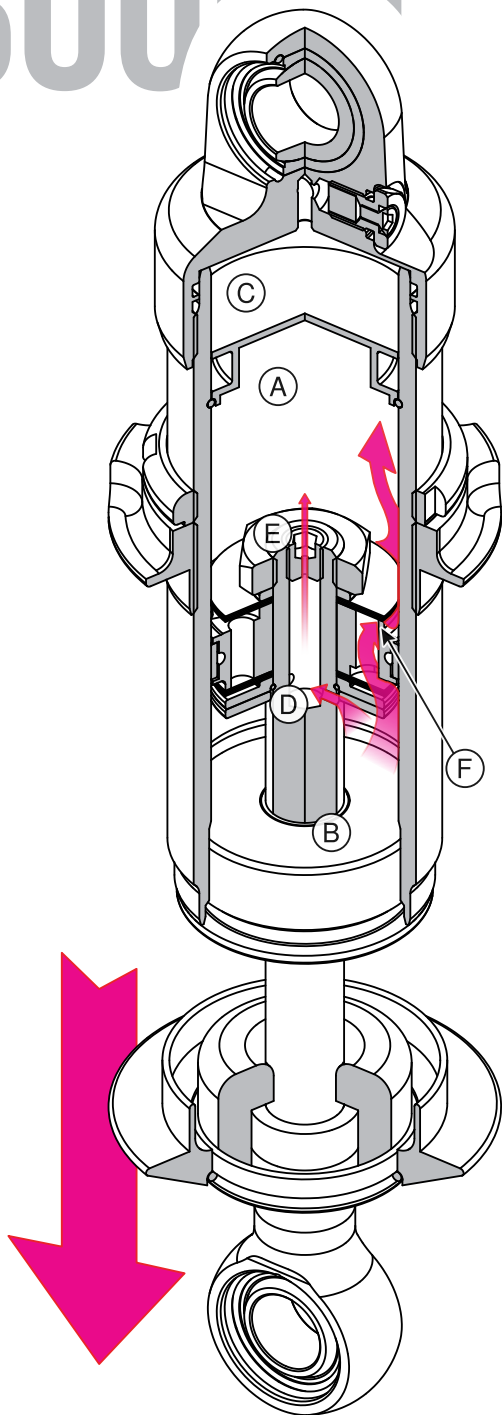
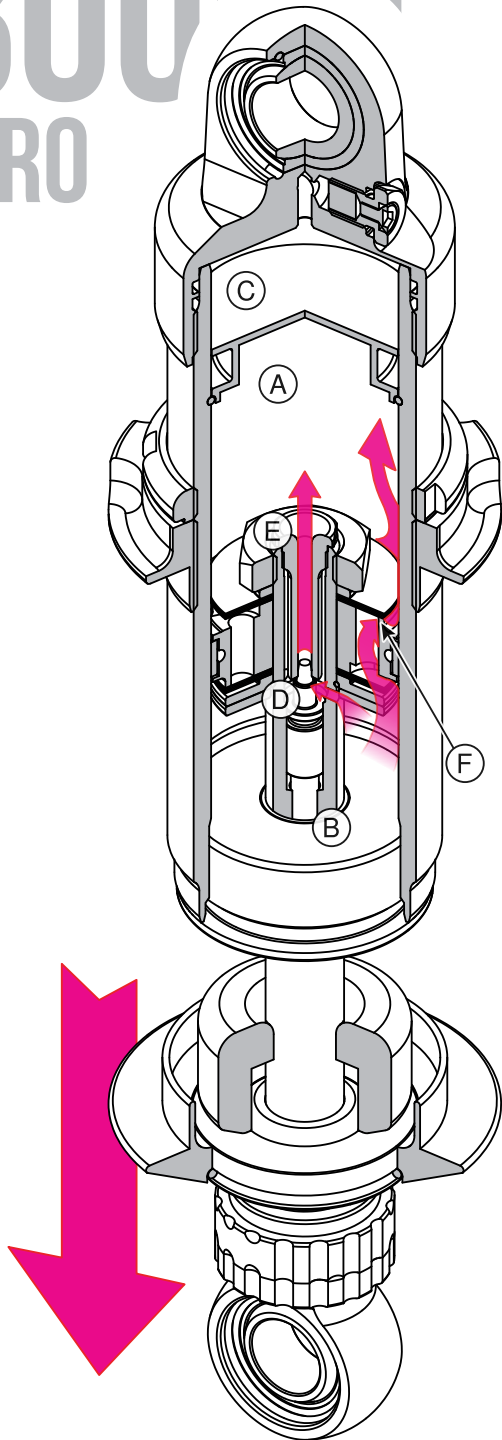
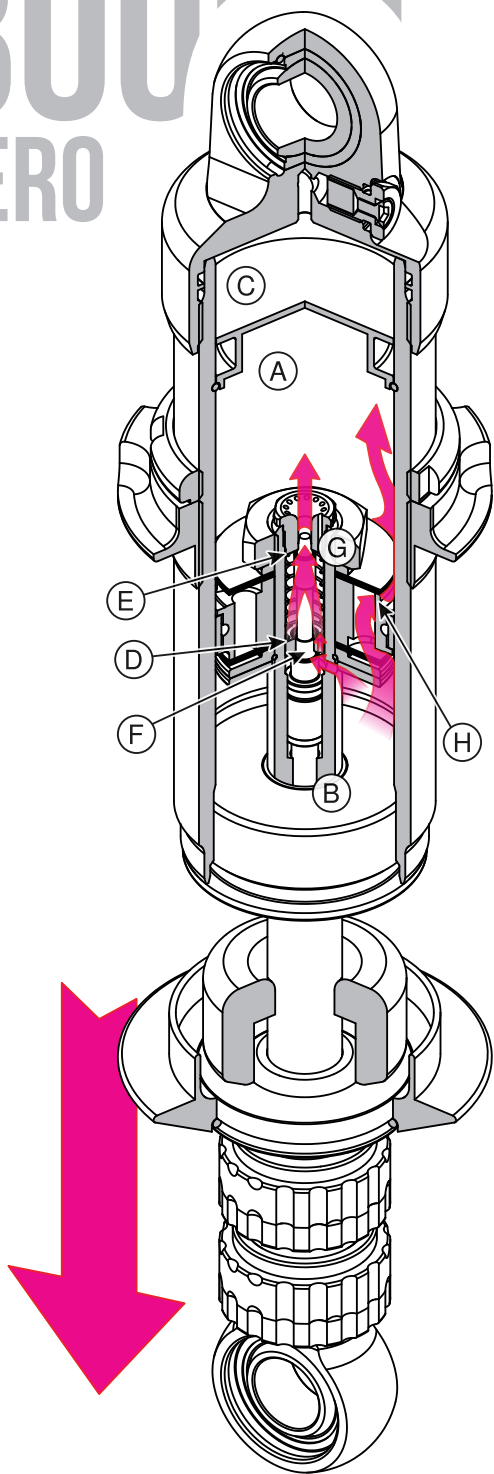

FIG 2-2
FIG. 2-4
FIG. 2-6
Oil flows through cross-drillings in the shaft (Fig. 2-2.D) and into the compression chamber via the jet (Fig. 2-2.E).
Oil flows through cross-drillings in the shaft. It passes between the needle and the jet (Fig. 2-4.D) and enters the compression chamber via jet (Fig. 2-4.E).
i. Two.Zero: Positive pressure inside the rebound chamber causes the CD check shim to open (Fig. 2-6.D) and the RD check shim to close (Fig. 2-6.E). Oil leaves the rebound chamber via cross-drillings in the shaft and flows through drillings in the perimeter of the CD jet (Fig. 2-6.F), bypassing the CD needle. A restriction occurs where the oil passes between the RD needle and its jet (Fig. 2-6.G). The oil enters the compression chamber via the RD jet.
Oil flows around the compression-damping valve stack and through the piston. A build up of pressure on the back of the rebound-damping valve stack causes the valve stack to deflect (Fig. 2-2.F, Fig. 2-4.F, Fig. 2-6.H) and the oil enters the compression chamber.